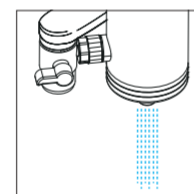

Figure 1.2
- Switch the lever to the level position and run water to the system slightly. Flush it for 3 minutes during the first use. [Figure 1.2]